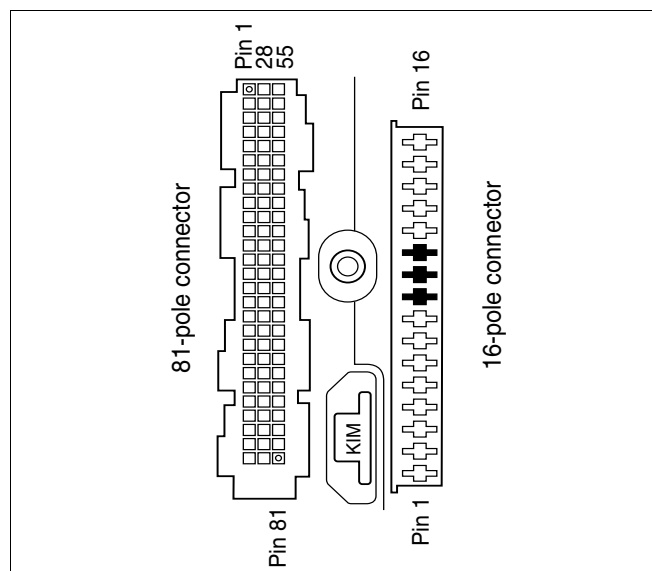

fig. 10 UBA 3 installation base
- Test the fan unit supply cord to make sure that there is no short circuit in it and that it is not broken anywhere (see fig. 10 and fig. 110 on page 126).